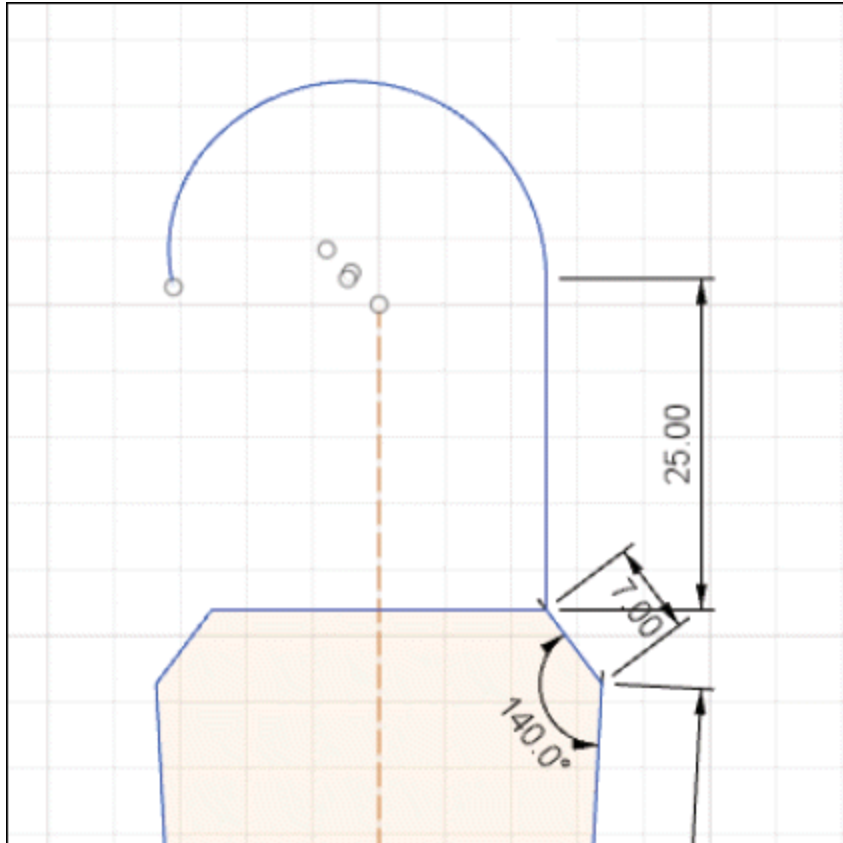

Figure-129. Creating three consecutive arcs
- Click on the end point of vertical line recently created and move the cursor upwards. Create three consecutive arc joining each other as shown in Figure-129. Press **ESC** to exit the tool.